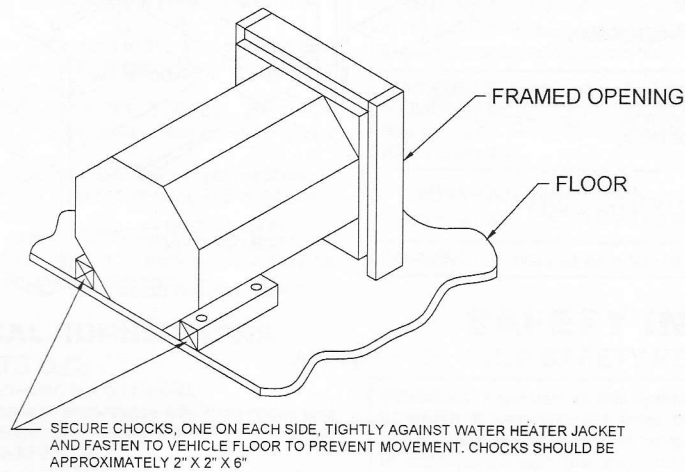

Figure 1B
- H. Install chocks, one on each side of water heater, as illustrated in Figure 1B.
- Install chocks, one on each side of water heater, as illustrated in Figure 1B.
- Insert door frame into control housing and secure with three (3) No. 8-15 x 3 1/2" screws provided.